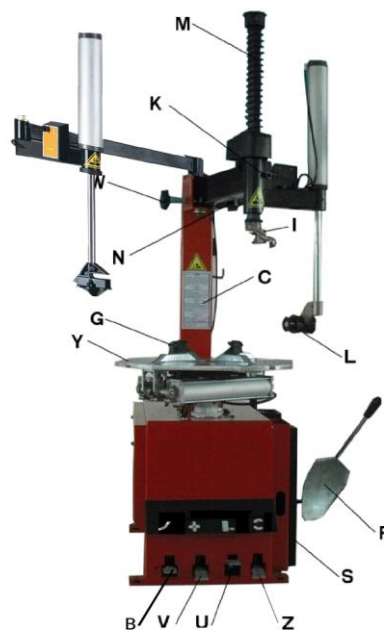

Fig 4
1) Tread Turntable Rotation Pedal (Z), turntable(Y) rotates in a clockwise direction; Lift Turntable Rotation Pedal (Y), turntable (Y) rotates in an anticlockwise direction
2) Tread bead breaker pedal (U), bead breaker shovel (R) closing toward inside; Loose bead breaking pedal (U), bead breaking shovel (R) returns to original position.
3) Completely tread Jaws open and close Pedal (V), four jaws on turntable(G) open. Tread again, jaws (G) close. When clamping pedal is at middle level, jaws stop Moving. Shown as Fig 4
2. Move demounting/mounting head close to edge of rim, keep a 2-3mm gap between demounting/mounting head and rim plane, operate locking handle (K, Fig 4) to lock vertical arm, adjust screw bolt in column to position swing arm, make sure 2-3mm gap between demounting/mounting head and rim edge side